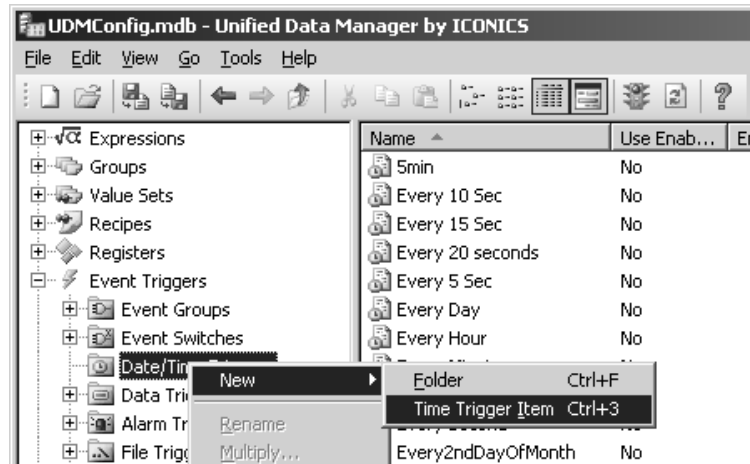

Figure L6.3 - Adding a Time Trigger
- Right-click on Date/Time Triggers and select **Time Trigger Item**, as shown in Figure L6.3.